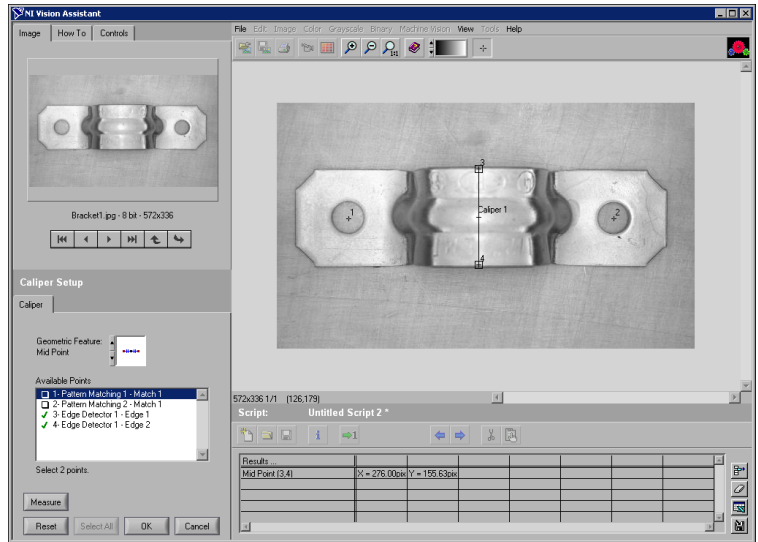

Figure 4-7. Using the Caliper Function to Find Width Center
9. Click **Measure** to compute the center of the bracket width and add the Width Center measurement to the results table, as shown in Figure 4-7.